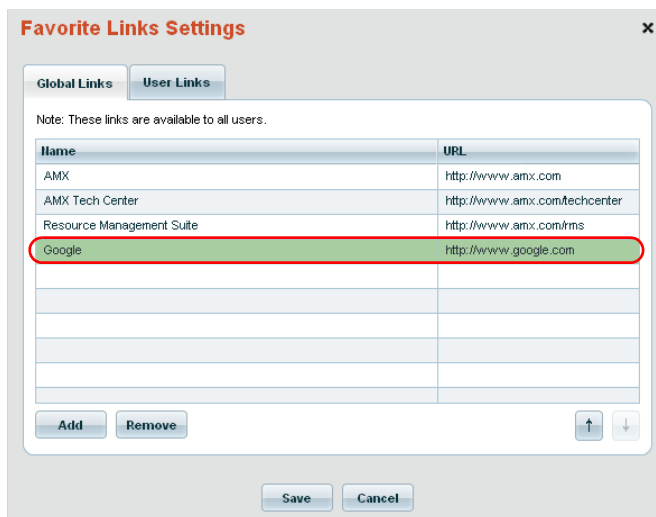

FIG. 116 Favorite Links Settings dialog - Entering new Link information
5. Click in the *URL* column and enter the URL information for the new link (FIG. 116).